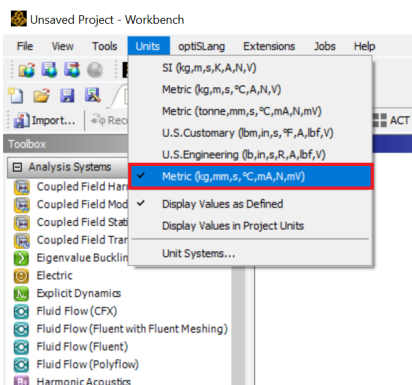

Figure 4: Selecting measurement units in ANSYS WB.
- Select *SI* or *metric units* of measurement from the *Units* menu as shown in figure 4. Note that it will always be possible to change this choice later, even customizing the values of the units of measurement for each quantity, from the WB *Units* menu.